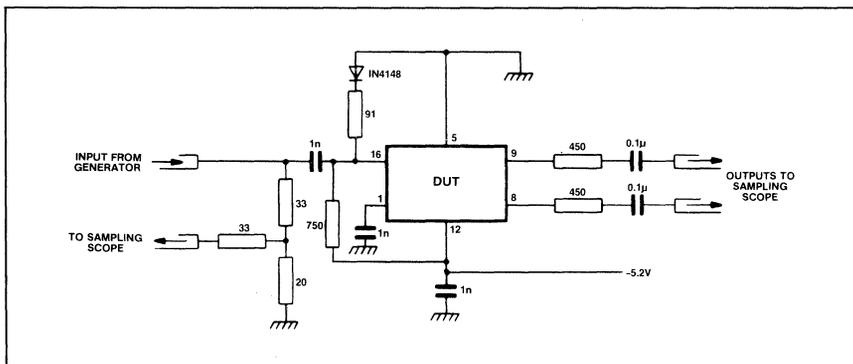

Fig.6 Test circuit
1. The clock and control inputs are ECL III compatible. There is an internal pulldown resistor to  $V_{EE}$  of 4.3k on each input and therefore any unused input can be left open circuit when not in use but should be bypassed for RF signals with a 1nF capacitor to ensure maximum noise immunity. If it is desirable to capacitively couple the signal source to the clock input then an external bias is required as shown in Fig. 6. The external bias voltage should be -1.3V at 25°C.